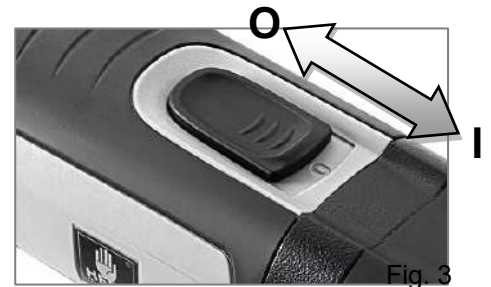

Fig. 2:
3. Position the fixing ring. The notches in the fixing ring must always be pointing towards the saw (see fig. 2). These must also be positioned precisely on the spigots.